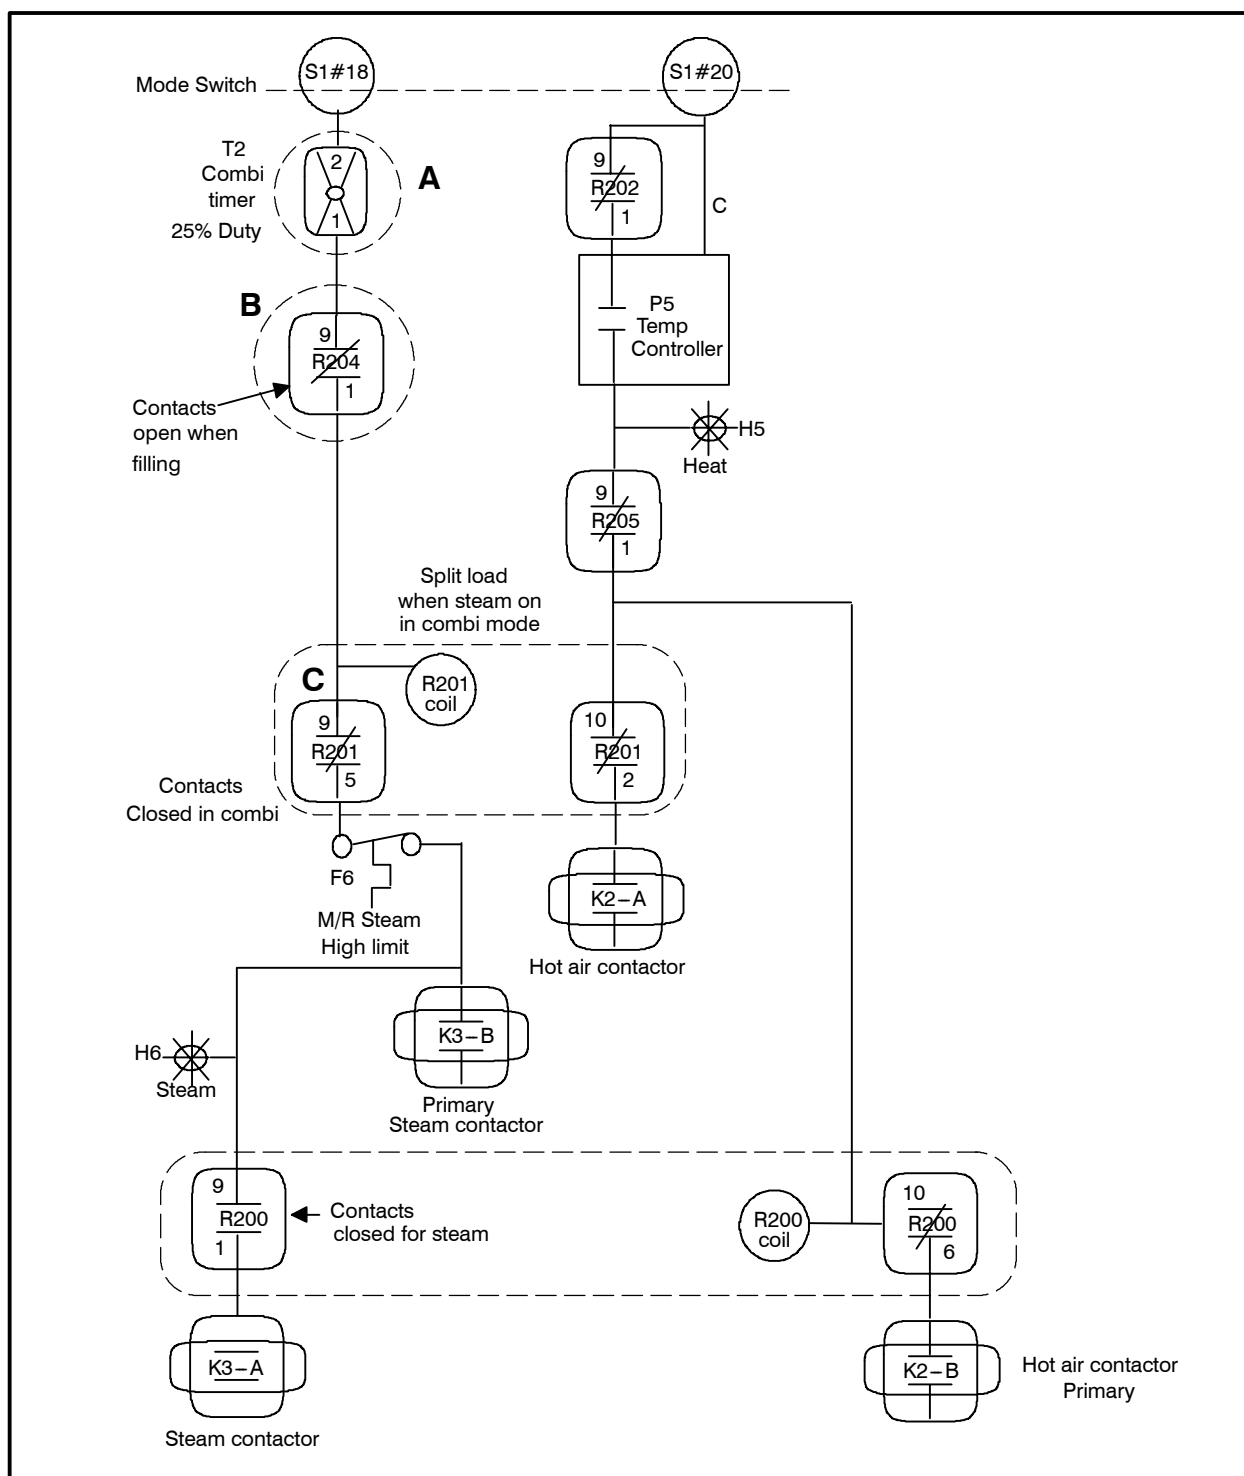

FIGURE 4
1. Check T2 combi solid state timing relay input and output. See FIGURE 4, location (A).
6. Check T1 buzzer, FIGURE 4.